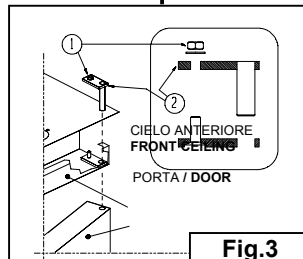

Fig.3
-Per estrarre la porta (**Fig.3**), togliere il dado **Pos.1**, e la piastra **Pos.2**.
-To remove the door from its housing (**Fig.3**), unscrew the bolt **Pos. 1** and remove the plate **Pos. 2**.